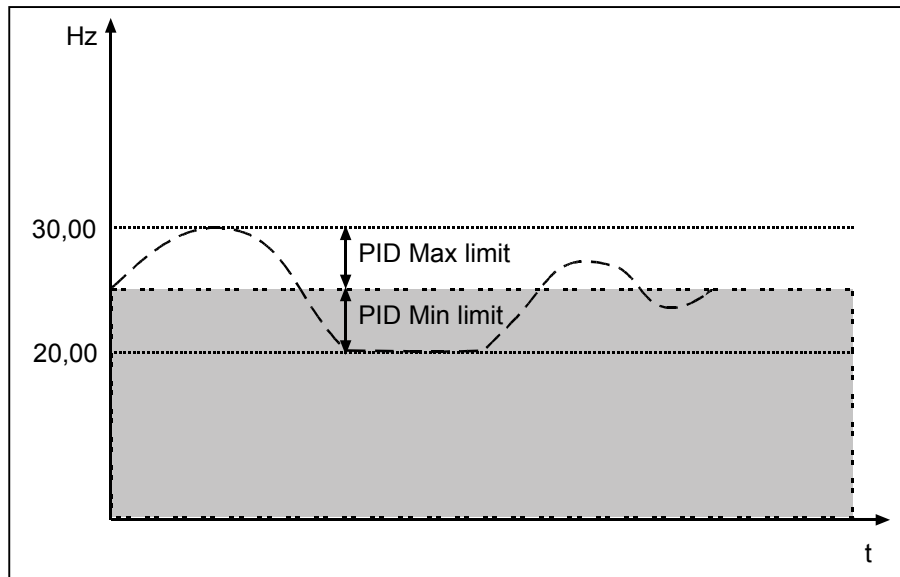

Figure 8-33. PID sum point reference
- If value **5** is selected for this parameter, the values of parameters ID319 and ID301 are automatically set to 13. See Figure 8-33.